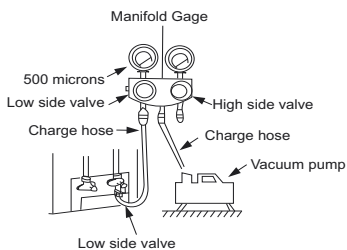

Fig. 12 — Manifold
3. Fully open the low side of manifold gage (see Fig. 12).